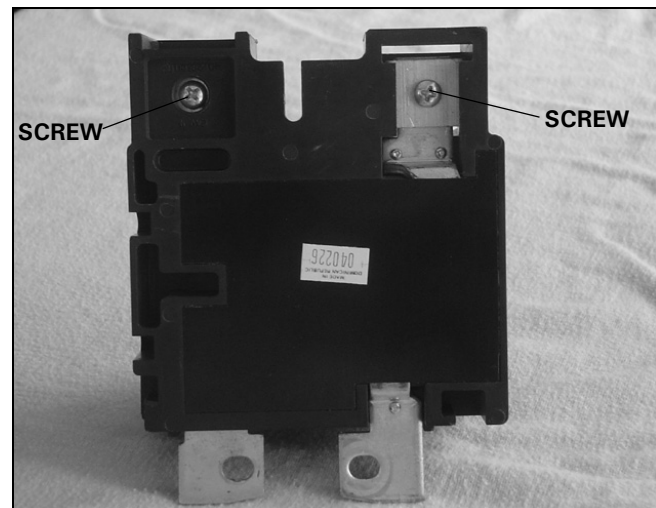

Figure 58. Location of the Screws Securing the Lugs to the Stabs.
- Step 3:** Working from the rear of the service entrance breaker, remove the two (2) screws securing the lugs to the stabs using a Phillips screwdriver (see Figure 58).